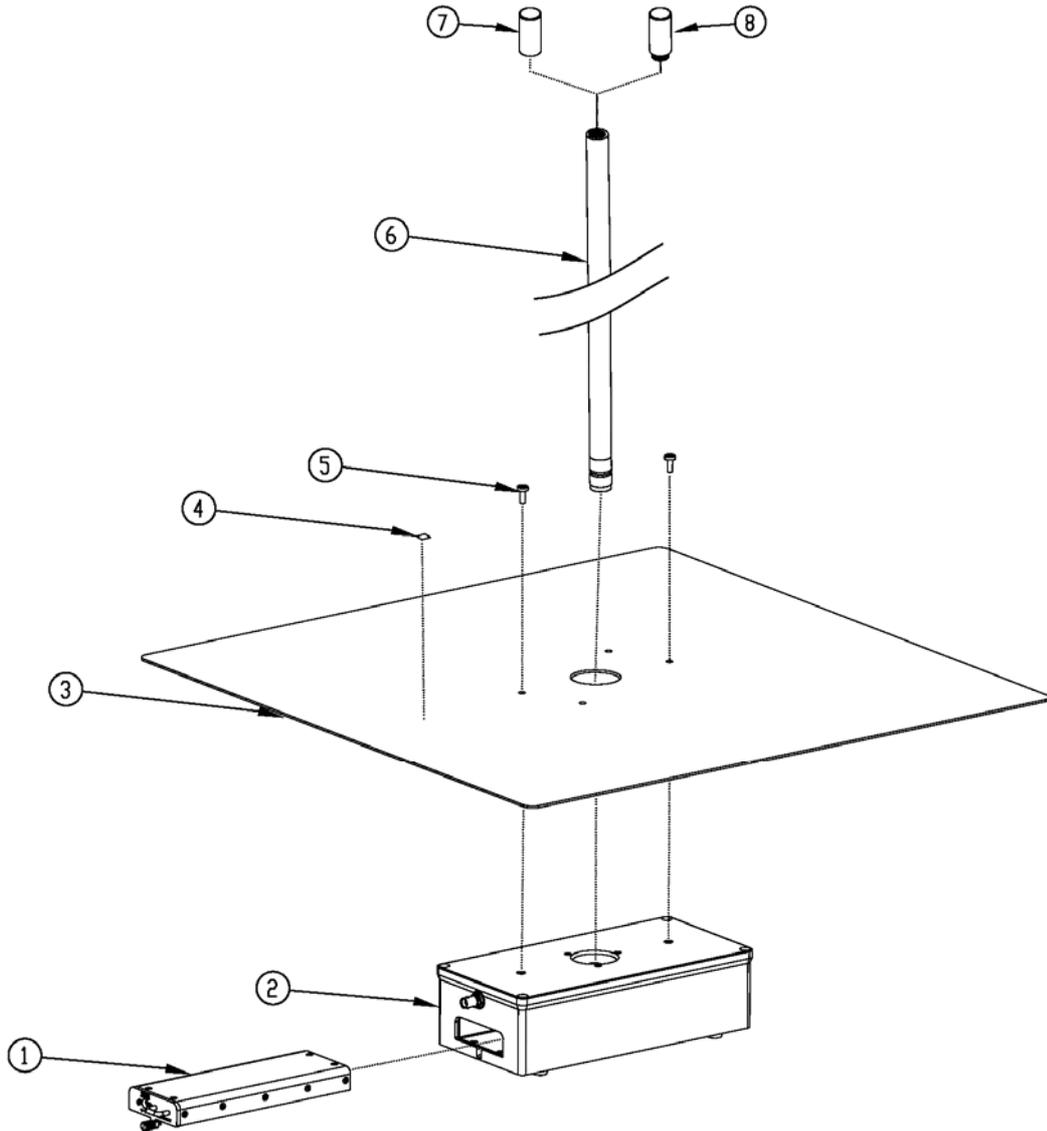

Fig. 2-2 Antenna parts and assembly
Remove the receiver and the BP-02 Li-ion battery pack from its cardboard shipping box, insert the battery (1), install the counterpoise (3) fixing it to the receiver box (2) with the two supplied screws (5). Please refer to figure 2-2.